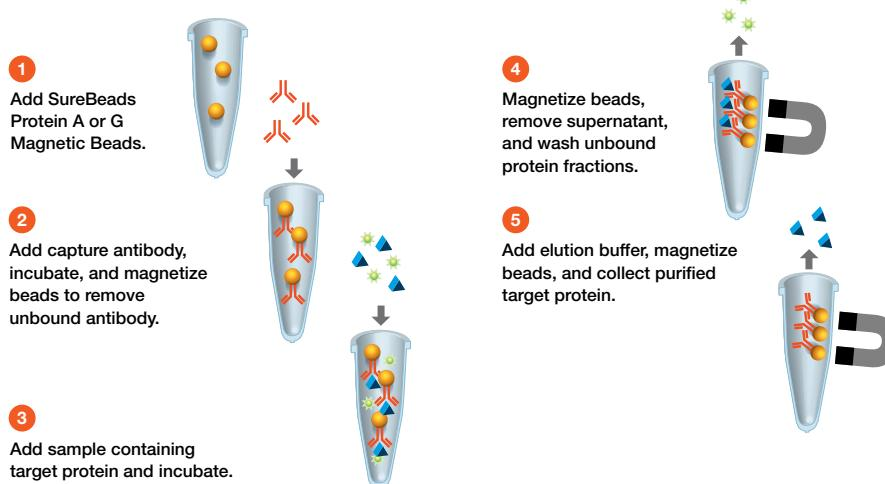

Fig. 3.3. Immunoprecipitation using SureBeads Magnetic Beads.
SureBeads™ Protein A and Protein G Magnetic Beads are designed for bioseparation techniques like immunoprecipitation (IP), co-immunoprecipitation (co-IP), and protein pull-down assays (Figure 3.3). SureBeads Beads are superparamagnetic beads with surface activated hydrophilic polymers and are chemically conjugated to Protein A and Protein G to specifically bind to the Fc region of immunoglobulin. This chemistry enables high IgG binding and low nonspecific binding from a variety of biological samples.